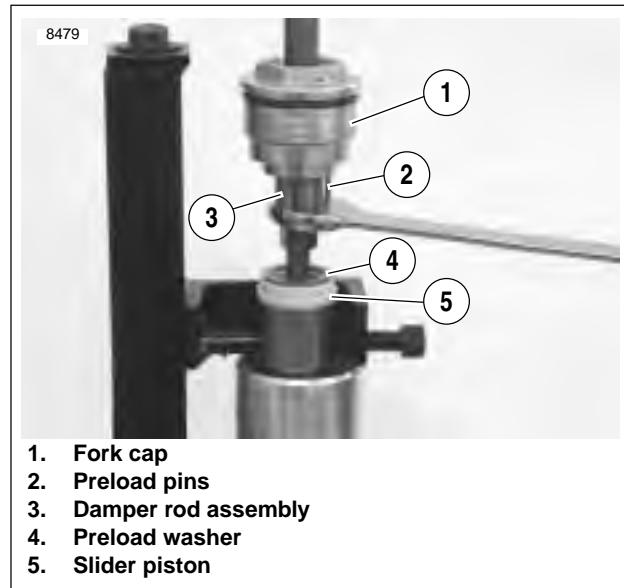

Figure 2-61. Holding Damper Rod Assembly
- See Figure 2-61. Hold damper rod assembly (3) and remove fork cap (1).
See Figure 2-61. Careful not to damage preload pins (2) while holding damper rod assembly (3).
- Remove preload washer (4) and slider piston (5).
- See Figure 2-61. Install preload washer (4) and slider piston (5).
- Hold damper rod assembly (3) and install fork cap (1) from damper rod assembly (3) tightening to 22-30 ft-lbs (30-40 Nm).
See Figure 2-61. Careful not to damage preload pins (2) while holding damper rod assembly (3),
- Apply fork oil or light grease to o-rings on preload adjuster and install preload adjuster (3).
- Install snap ring (2).